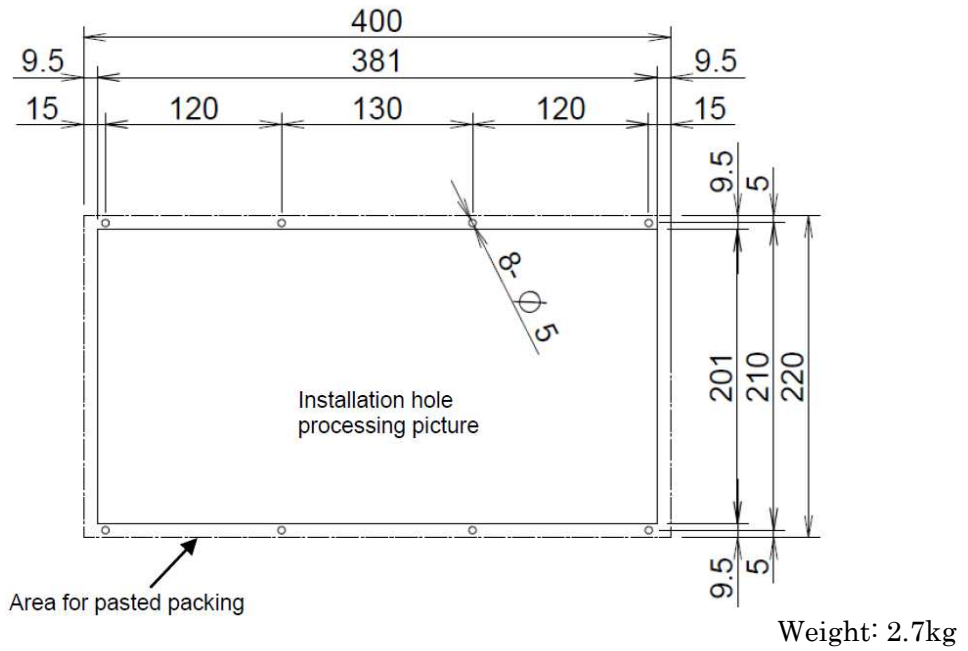

Fig. U16 10.4" LCD/MDI unit B(Horizontal) 08
10.4" LCD/MDI unit B(Horizontal)	Fig. U16